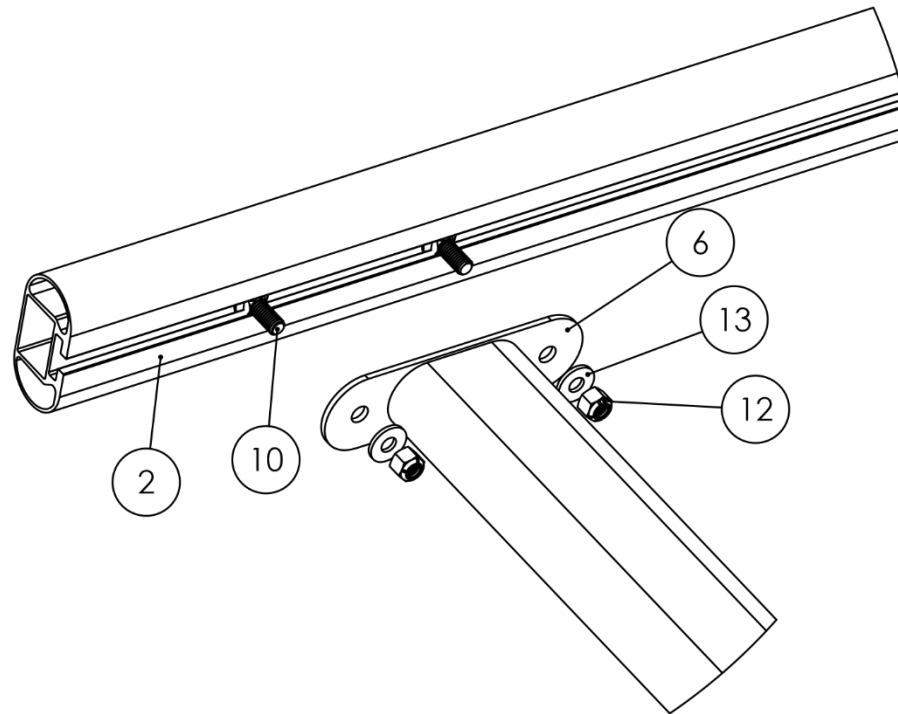

Figure 11
6. **Attach the Side Rails to the Crossbars.** Examine the Side Rails (Item No. 2) and notice a slot (channel) running the length of the inner side. Lay the Side Rails on the ground and slide (6) 1" Carriage Bolts (Item No. 10) into each Side Rail slot. Once you have placed the Carriage Bolts at a position relative to the location of the Legs (Item No. 4), hold up a Side Rail and place it against the end of a Crossbar (Item No. 1) in such a way that allows you to complete the attachment as shown in Figure 11. Push the Carriage Bolts through the holes found on the Side Rail Connector (Item No. 6) and fasten each with a Lock Nut (Item No. 12) and Washer (Item No. 13). Complete the process at each Crossbar and Side Rail joint.